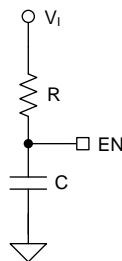

Figure 1. Delaying Start-up via EN Pin
Most DC/DC converters have an enable (EN) input pin to enable or disable the device. To delay the start-up of the converter, an RC network shown in Figure 1 can be used.